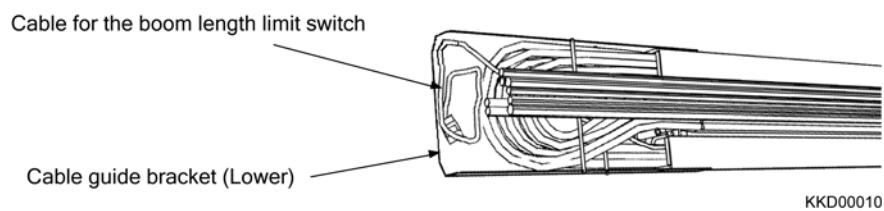

Fig. 2-35
- 14) Wind the disconnected cable and then put it on the cable guide bracket (Lower). (Fig. 2-35)